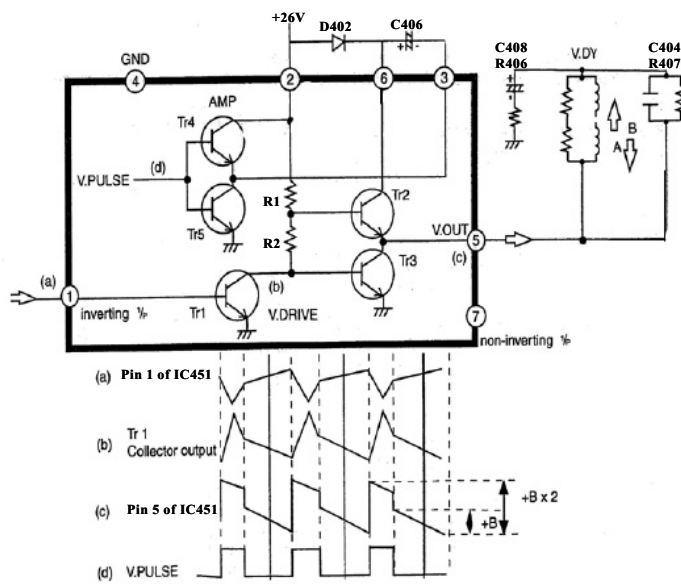

Fig 4.5
1. The vertical drive signal (sawtooth wave voltage) enters IC451 at pin 1 and 7[Fig 4.5].